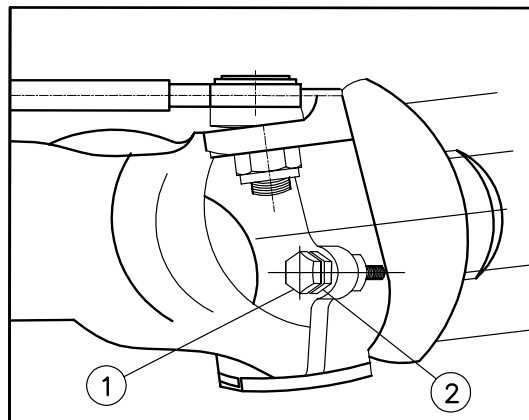

Fig. 4.22
The angle is changed by adjusting the stop screw (1) (Fig.4-22) on the final drive of the axle and locking check nut (2).